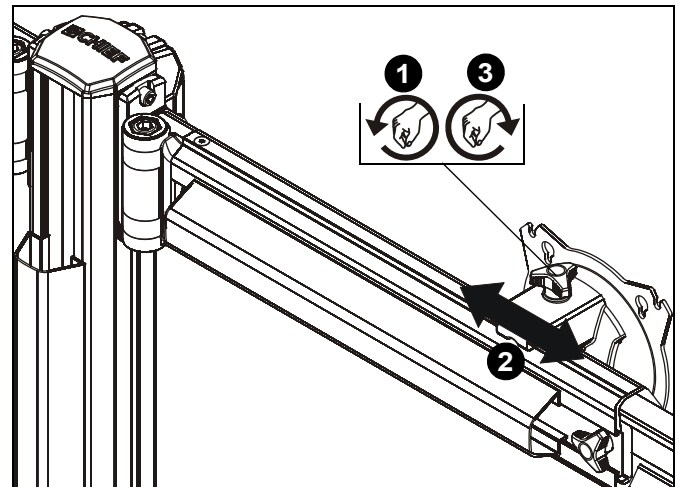

Figure 27
1. Loosen knob on top of outside faceplate assembly until faceplate can slide freely along array arm. (See Figure 27)
2. Adjust lateral position as desired. (See Figure 27)
3. Tighten knob to secure lateral position. (See Figure 27)